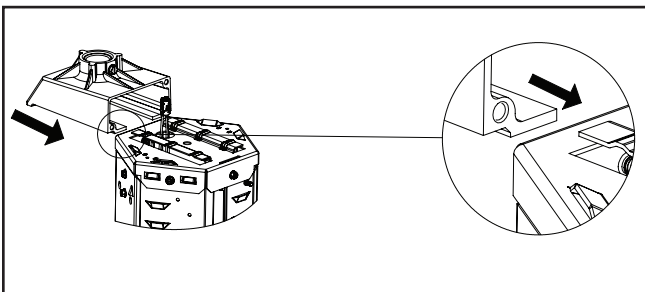

Figure 5.
5. Slide the TCB as shown. (Figure 5.)